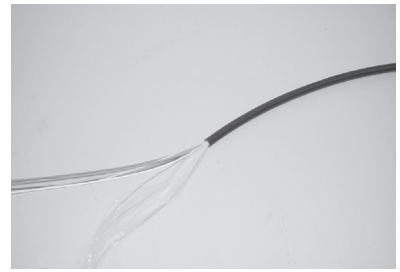

Figure 5
4. Prepare drops 48"-58" from ring cut. Remove all but 1.5" of buffer tube if present. Place fibers in the ST tubing and slide tubing inside buffer tube 1". Leave 6" of strength member or Kevlar string and tie down inside the closure. (Figure 5)